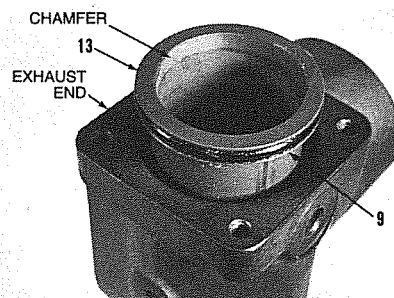

Figure 7-2, Inserting sleeve into air body.
7.1.2 Lubricate four o-rings (9) with petrolatum and install in grooves of sleeve (13). Position air shuttle body (16) in vise, exhaust end up. Apply petrolatum to inner wall of body. Insert sleeve (13) fully into body, chamfered end up. See Figure 7-2. Lubricate inside of sleeve and outside seals of assembled shuttle with Molykote®. Insert shuttle assembly, rod end down, through sleeve.